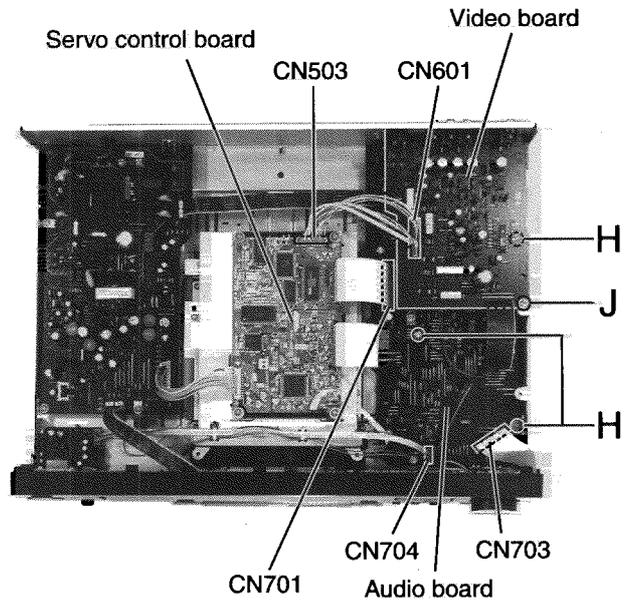

Fig.10
■ **Removing the Video Board and Audio Board (See Fig.10)**